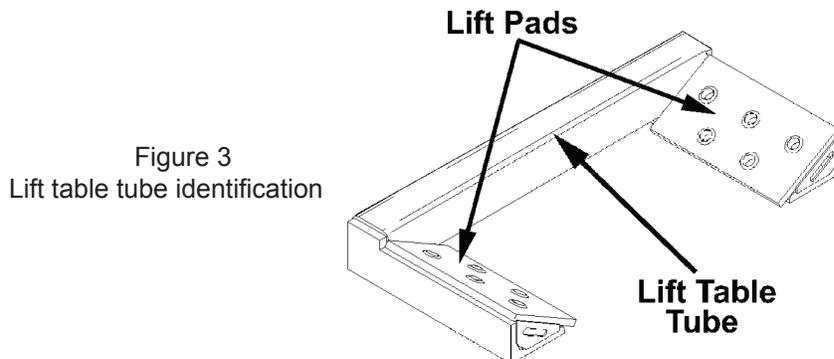

Figure 3
5. Push the lift pad under the tire until the lift table tube contacts the tire (see Figure 3 for identification).